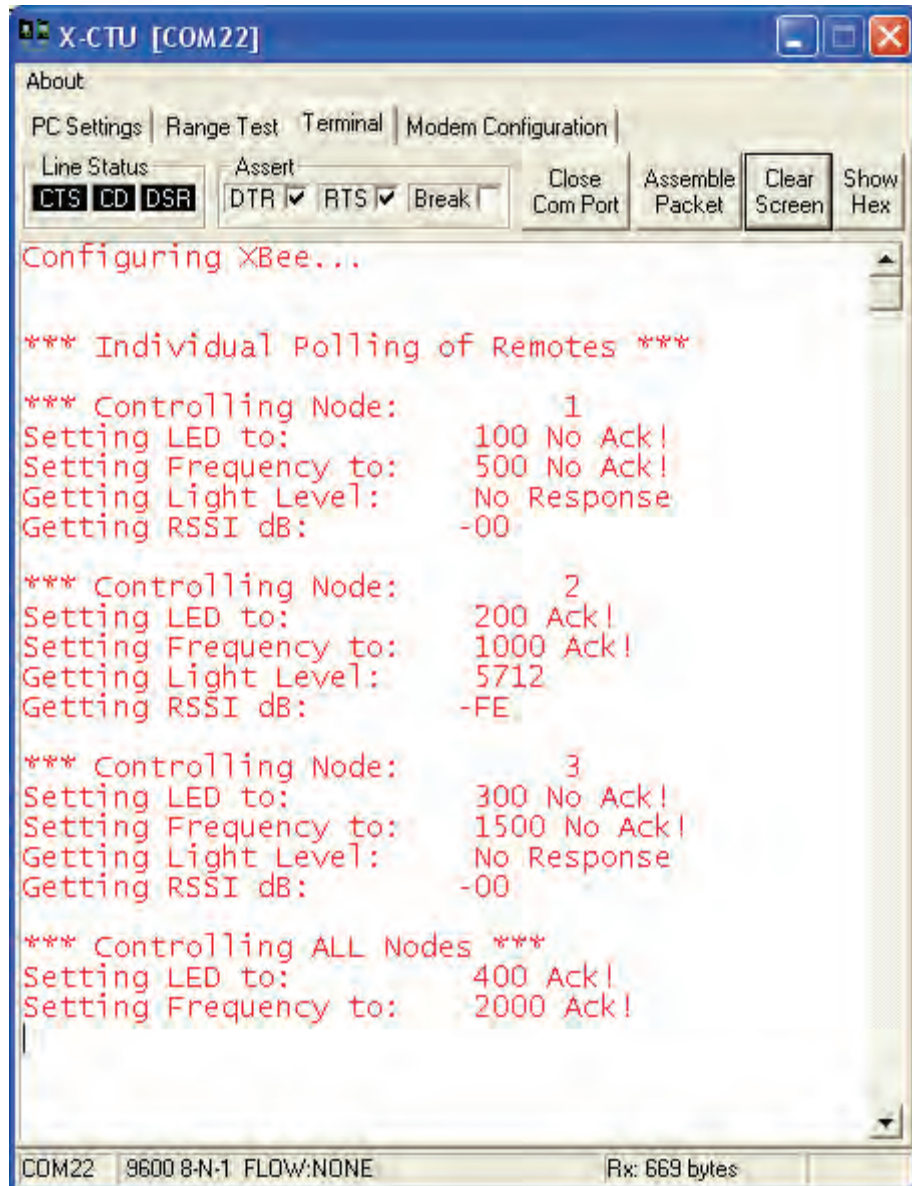

Figure 5-11: Automatic Polling Base Terminal
- ✓ Using a terminal window, monitor the polling as shown in Figure 5-11.